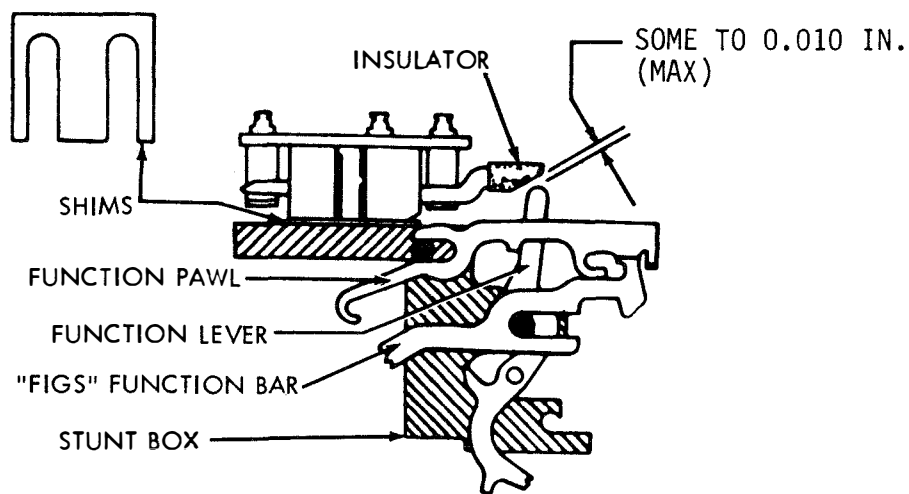

Figure 6-391. FIGURES Stunt Box Contact, Right Side View
- (1) Refer to Figure 6-391.
- (2) With stunt box mounted on typing unit, manually set up LETTERS combination (12345) on typing unit selector.
- (3) Rotate typing unit main shaft until function lever is in extreme forward position toward contact insulator.
- (4) Clearance between contact insulator and function lever should measure some to 0.010 inch maximum.
- (5) If clearance exceeds specified limits, loosen